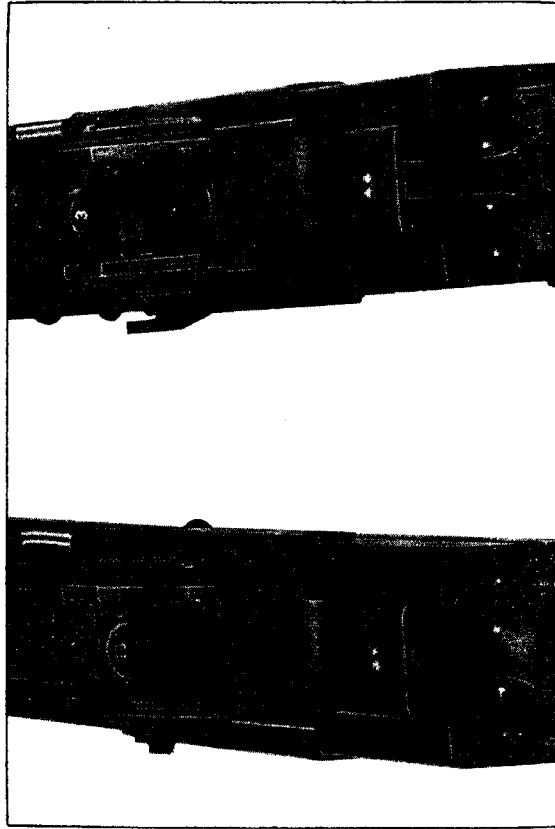

Fig. 7
- la prima, tarata fino a 150 metri (fig. 7)
- the first aperture is adjusted for a distance of 150 meters (see figure 7)